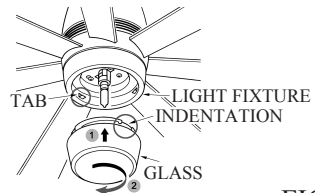

FIG.16
5. Carefully lift the glass shade up inside the light kit plate as far as it will go. Rotate the shade in a clockwise direction until it is held tightly in place by the three tabs (see Fig.16)